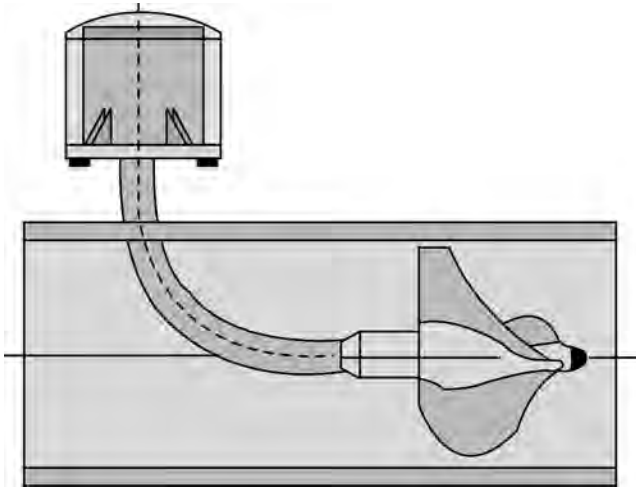

FIGURE 4.23 Propeller flow meter.
- Figure 4.23 illustrates a propeller flow meter.